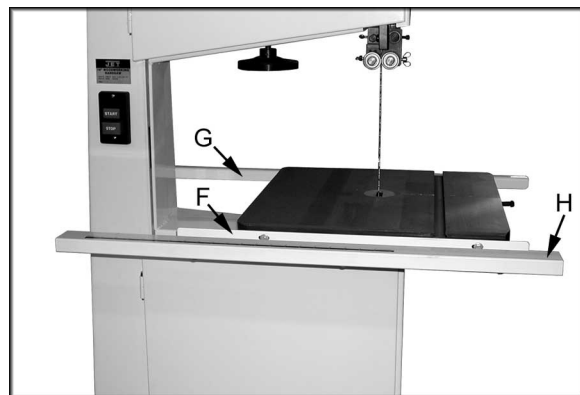

Figure 9
1. Attach the front rail (F, Figure 9) to the cast iron table with two 1/4" x 5/8" hex cap screws, two 1/4" lock washers, and two 1/4" flat washers. Screws should be in approximately the center of the slot. Hand tighten only at this time.
2. Attach the rear rail (G, Figure 9) to the table with two 1/4" x 5/8" hex cap screws, two 1/4" lock washers, and two 1/4" flat washers. Screws should be in approximately the center of the slot. Hand tighten only at this time.
5. Attach the guide tube (H, Figure 9) to the front rail with five 1/4" x 5/8" hex cap screws, five 1/4" lock washers, and five 1/4" flat washers. Screws should be in approximately the center of the slot.